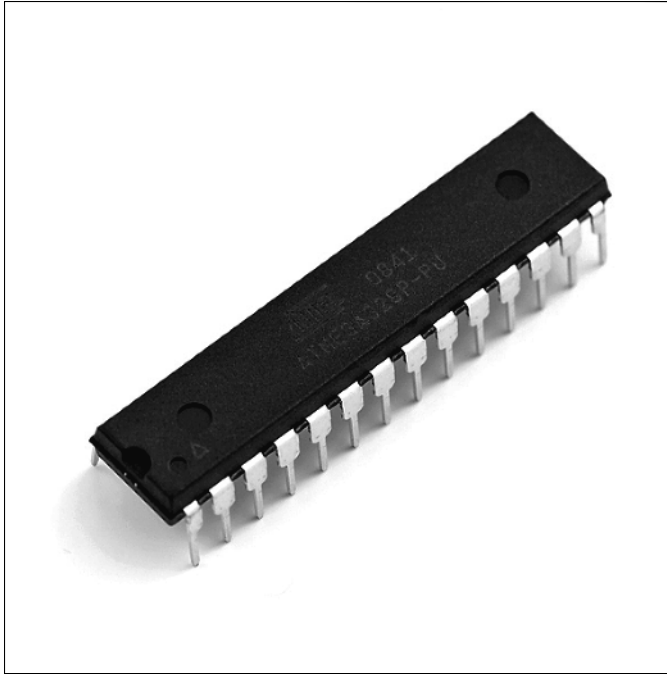

Figure 1-2:
Because it's a *microcontroller*, it's very small, so it doesn't need much power and can be put into tiny spaces like a project box. How small are microcontrollers? Physically, the one on the Arduino is about as large as they come, about half the size of a pack of gum, as you can see in Figure 1-2. The microcontroller is the rectangular *integrated circuit (IC)* on the blue *printed circuit board (PCB)*. It's that size because it's easy to handle with your fingers, so you can replace the microcontroller on your Arduino if it croaks for some reason. But microcontrollers start about this large and go down from there, all the way to the microscopic level. The main factors that determine their size are their capabilities and cost. In fact, the actual processor *core* on your Arduino chip is much, much smaller than the exterior IC chip itself.
The best part about *microcontrollers* is that they are inexpensive, unlike their big brothers, the *microprocessors* in your computer, laptop, tablet, or phone. Microcontrollers are inexpensive because they have limited capabilities (see Figure 1-2). They are mainly designed to control things or otherwise respond to sensory input, and are called *embedded systems*. Bigger computers have more general capabilities and need more power and therefore, cost more, and use *general purpose* microprocessors.